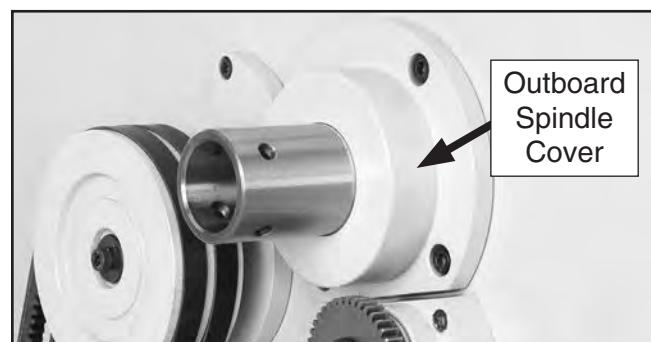

Figure 133. Outboard spindle cover.
4. Remove end gear cover, then remove outboard spindle cover (see **Figure 133**).